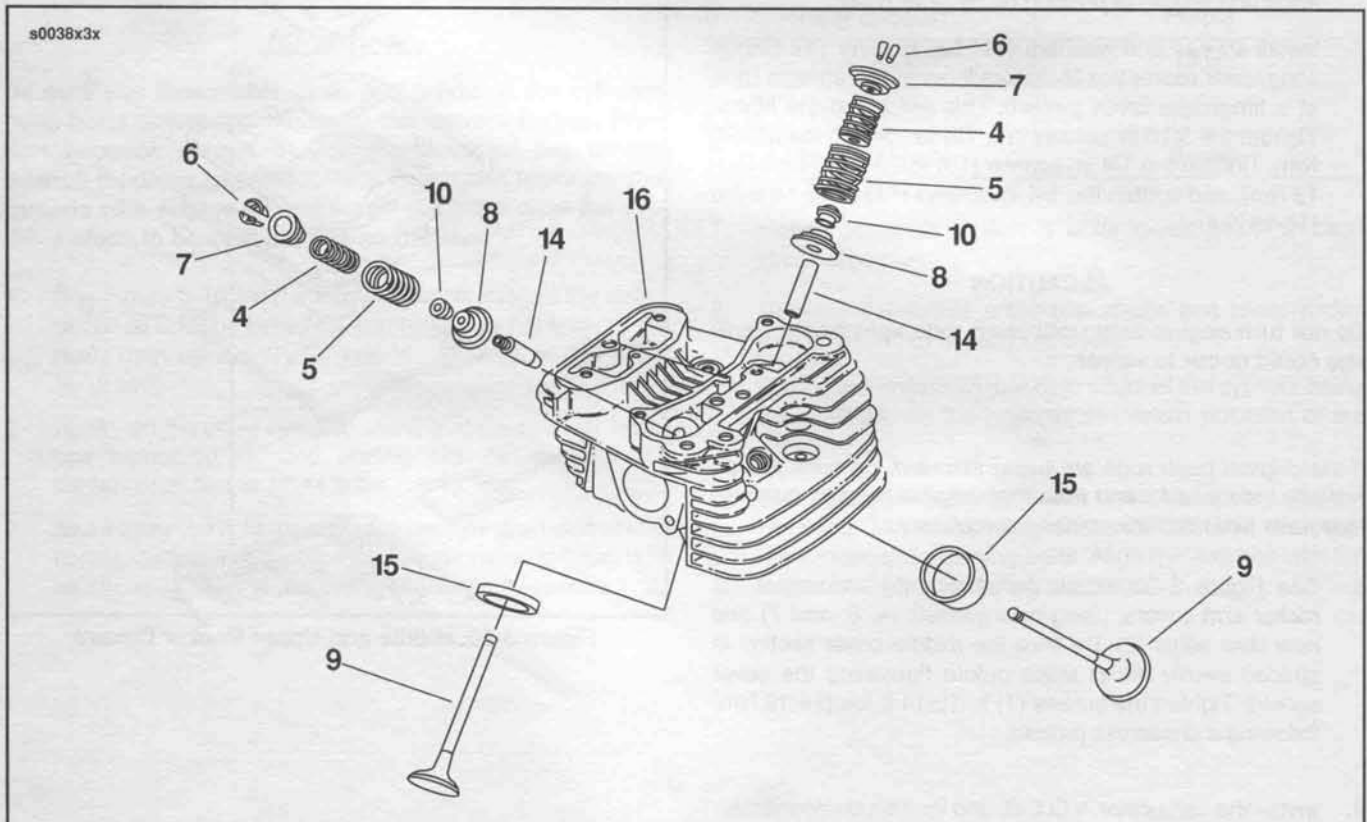

Figure 3-22. Cylinder Head Assembly
4. See Figure 3-22. Mark keepers (6) so they will be reinstalled on the same valve, then remove keepers, upper collar (7), springs (4 and 5) and lower collar (8).
6. See Figure 3-22. Remove valve (9) and valve stem seal (10).
8. See Figure 3-22. Install valve springs (4 and 5), upper collar (7).
10. See Figure 3-22. Insert keepers (6) into upper collar (7) making sure they engage groove in valve stem. The keeper gaps should be equally spaced.